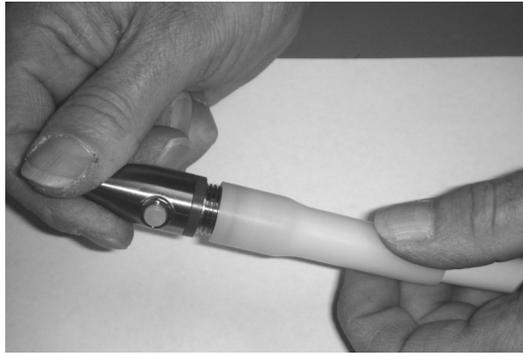
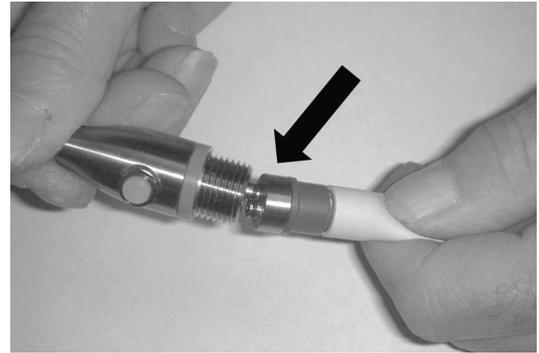

Fig. 1
Fig. 2
Step 4 - While holding the metal body of the irrigation handpiece, unscrew the white handle from the base and slide down tubing. Remove the head of the irrigator. (Fig. 1; Fig. 2)